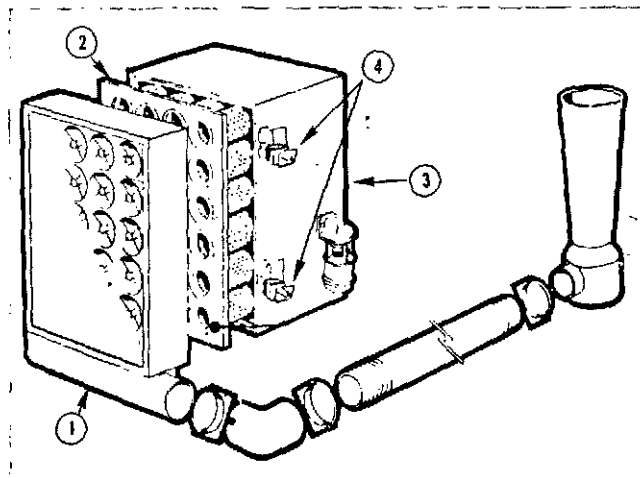

Fig. 5-9. Air cleaner — cartridge type
4. Loosen wing nuts (4, Fig. 5-9) on air cleaner housing (3). Loosen "U" bolt clamp securing pre-cleaner to aspirator tubing. Remove pre-cleaner panel (1).